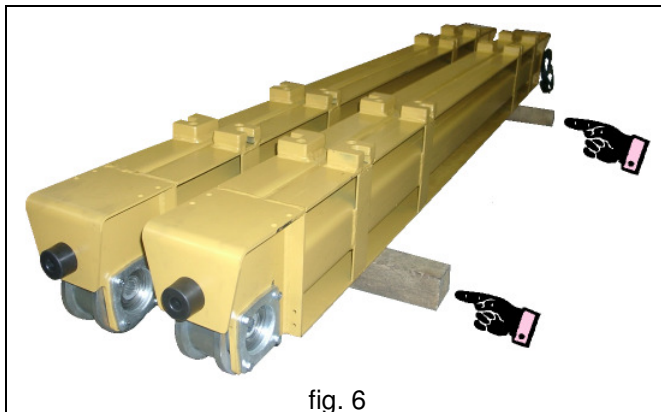

fig. 6
- do not place the beam girders on the wheels, placing them onto wooden blocks instead (fig. 6);